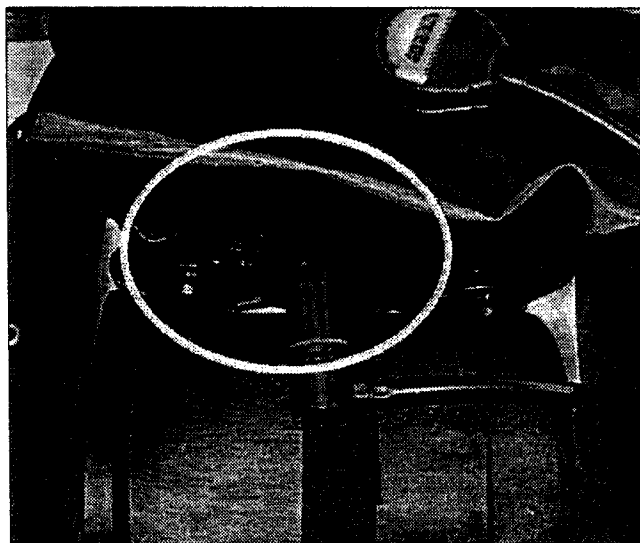

Figure 6: Sensor housing in standby position
Calibration failed Gas too low	<p>If the PPO2 is lower than expected, the OXYgauge attempts to correct the value by increasing the gain. If the required increase in gain is too high, the message "Err" is displayed, together with the icon "L" ("L" = Lower than expected PPO2).</p> <p>After 5 seconds, the instrument resumes monitoring mode with the previous gain setting unchanged.</p> <p>If "Err" is displayed, check that:</p> <ul style="list-style-type: none"><li>a. the sensor contacts are clean and that the sensor is correctly installed (see Figure 8).</li><li>b. the sensor unit is NOT in the rebreather bag with the cylinder gas shut off. The sensor unit must be in ambient air during calibration (see Figure 6).</li></ul> <p>If these checks are positive and "Err" is still displayed, the sensor can no longer be calibrated and must be replaced before the OXYgauge can be used again.</p>
Calibration failed Gas too high	<p>If the PPO2 is higher than expected, the OXYgauge attempts to correct the value by reducing the gain. If the required reduction in gain is too high, the message "Err" is displayed, together with the icon "H" ("H" = Higher than expected PPO2).</p> <p>After 5 seconds, the instrument resumes monitoring mode with the previous gain setting unchanged. If "Err" is displayed, check that: the sensor unit is NOT in the rebreather bag with the cylinder valve open. The sensor unit must be in ambient air during calibration (see Figure 6).</p>
- Then insert the OXYgauge sensor housing through the slot in the outer shell for the medium pressure hoses. Do not plug it into the breathing bag yet (see Figure 6) (only applies to the Atlantis or Dolphin).